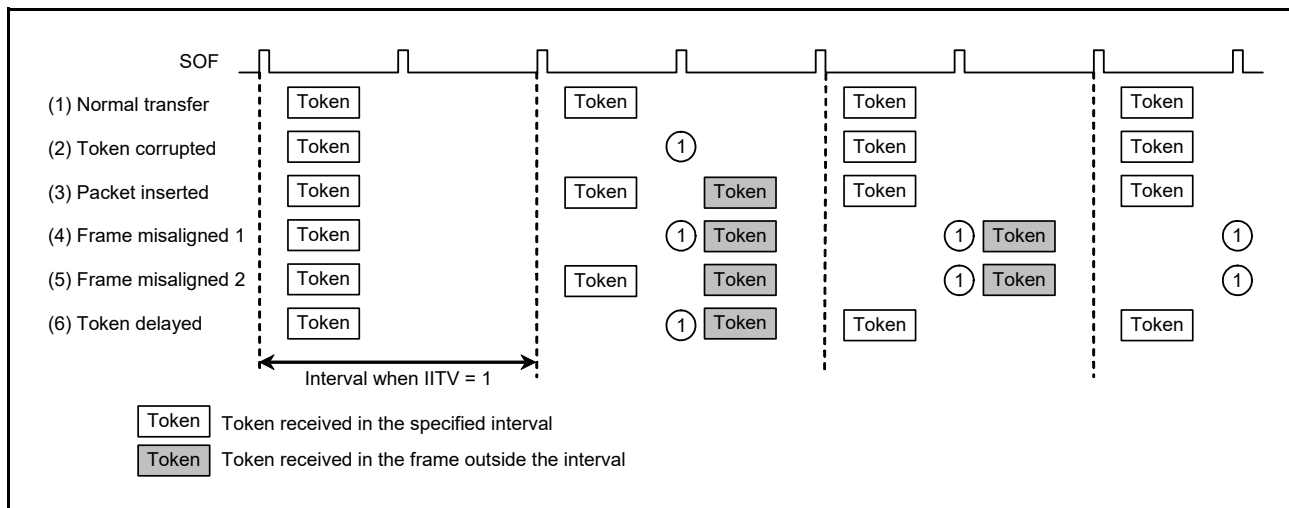

Figure 40.22 Example of Interval Error Occurrence When IITV[2:0] = 001b
Figure 40.22 shows an example of interval error occurrence in the USB. There are five types of interval errors, as shown below. The interval error is generated at the timing indicated by ① in the figure, and the buffer flush function is activated.